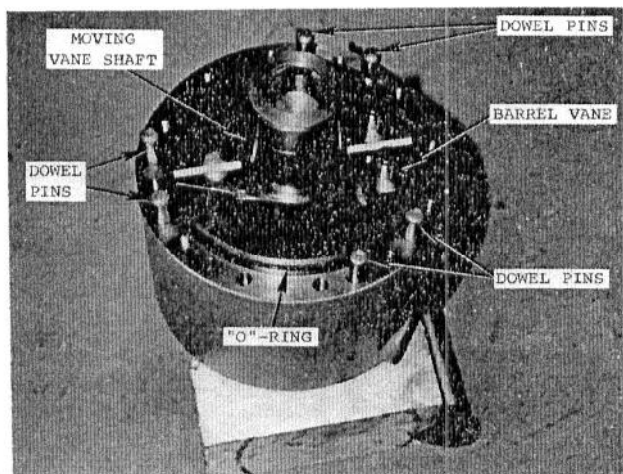

Fig. 50 — Moving Vane in Line with Barrel Vane
5. Rotate the moving vane shaft until the vane is approximately 90° from the centerline of the barrel vane ... see Figs. 50 and 51.
3. Inspect the barrel assembly as follows ... see Figs. 50, 52, 54 and 55:
19. Position the large "O"-ring into its groove at top of barrel ... see Fig. 50. Lightly oil this "O"-ring.